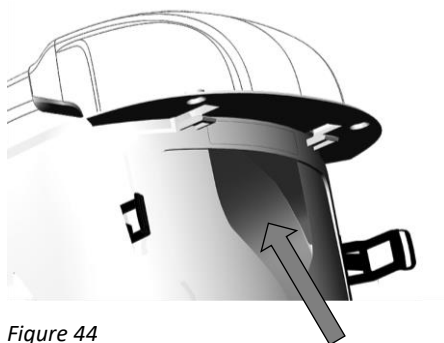

Figure 44
**Do not allow any dirt or elements, which may obstruct the air flow to enter the air inlet. (Figure 44)**